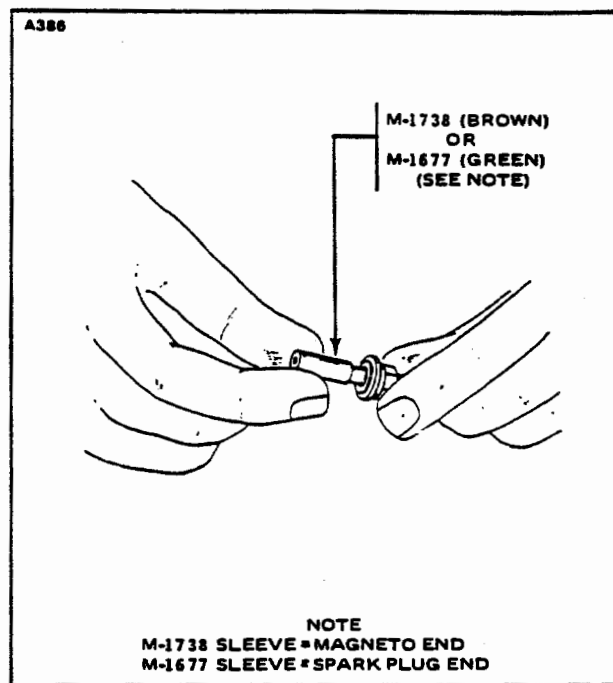

Figure 8-32. Installation of Insulator Sleeve
- n. On the magneto end of the wire, place M-1738 Insulator Sleeve (brown, 0.75 inch long) over the silicone insulation. On the spark plug end of the wire, use green M-1677 Insulator Sleeve. Refer to Figure 8-32.